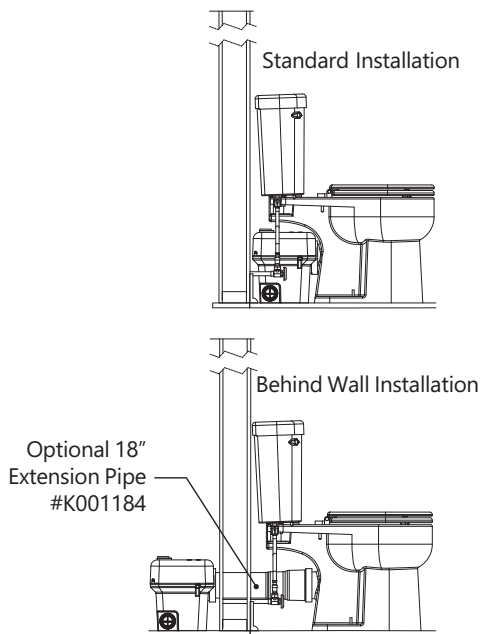

Figure 4. Placement Options
1. Place the macerator in the desired location and connect all inlet and outlet waste piping to the unit. The inlet side should be facing the toilet to ensure proper placement. Refer to Figure 4 and Figure 5.